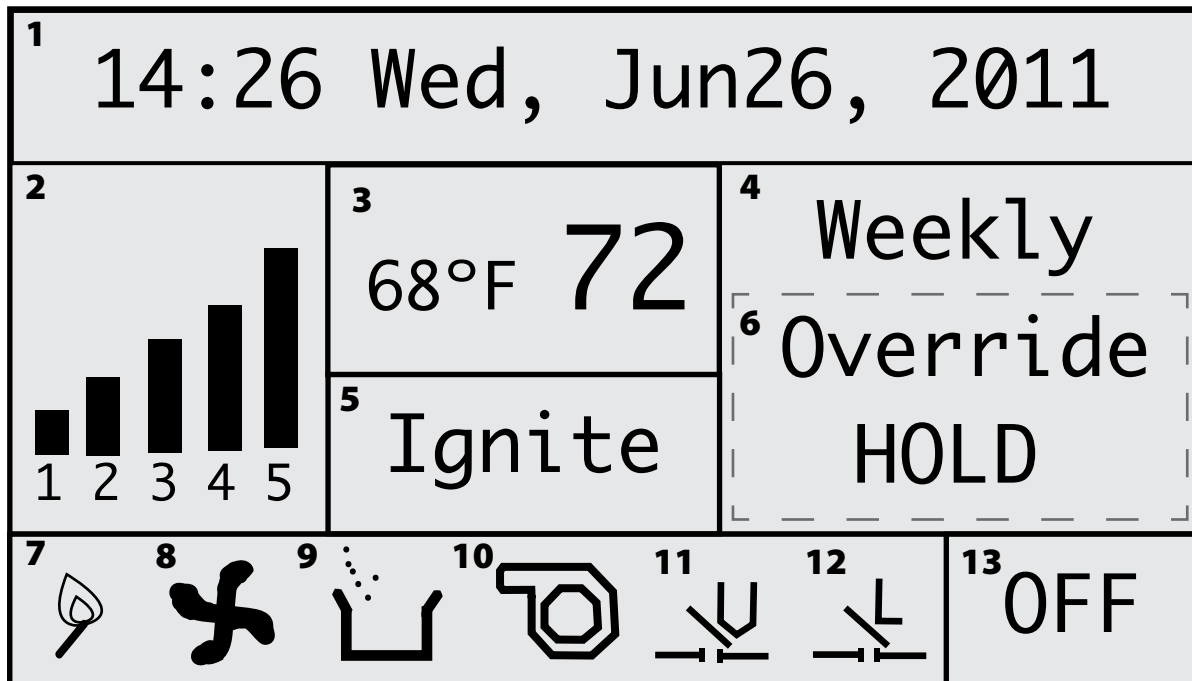

Figure 19
When the stove turns on, the ignition indicator and the combustion blower indicator will appear on the screen (images 7 and 8 in Figure 19 on page 23). "Ignite" will also appear in the work stage box on the screen. After approximately four seconds, the vacuum switch indicator will appear. Also note that the hopper lid open indicator (limit indicator) will appear anytime the stove's hopper lid is properly shut and sealed.
- With a schedule set, make sure that the main display screen on the controller reads "Weekly" (for operating in the Weekly Mode) and that the unit is turned on. The schedule will not take effect unless the unit is turned on in the Weekly Mode. (See button 13 on Figure 19.)